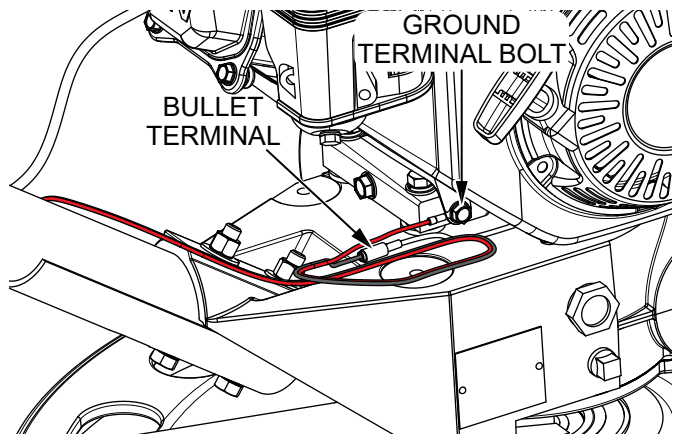

Figure 3. Disconnect Electrical Wire Harness
2. Disconnect the **bullet terminal** as shown in Figure 3.
3. Remove the **bolt** (Figure 3) securing the **ground wire terminal** to the engine block, and set it aside.
- Secure the **red (ground) wire with the ring terminal** to the engine block using the bolt that was removed during step #3 of the **Existing Wire Harness and Throttle Lever Removal** section (Figure 3).
- Connect the **black wire with the bullet connector** to the engine as shown in Figure 3.